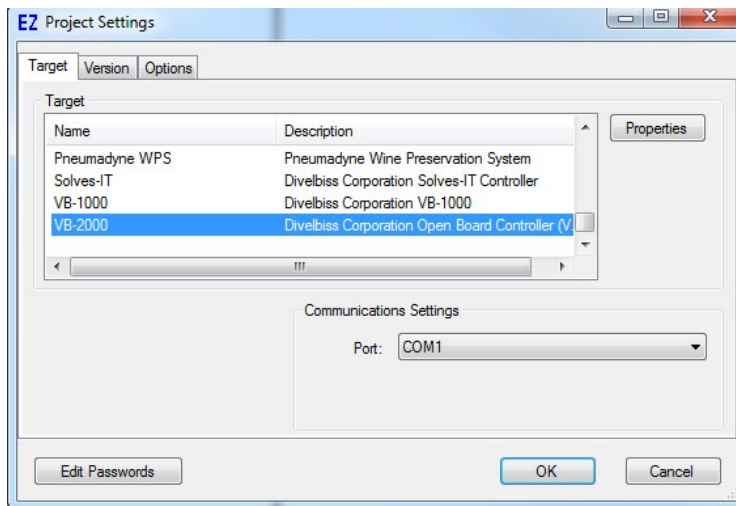

Figure 2-1 - Project Settings Window
1. In EZ LADDER, from the File Menu at the top, click **PROJECT** then **SETTINGS**. This will open the Project Settings Window. Select **VB-2000** as the target from the choices. Refer to Figure 2-1